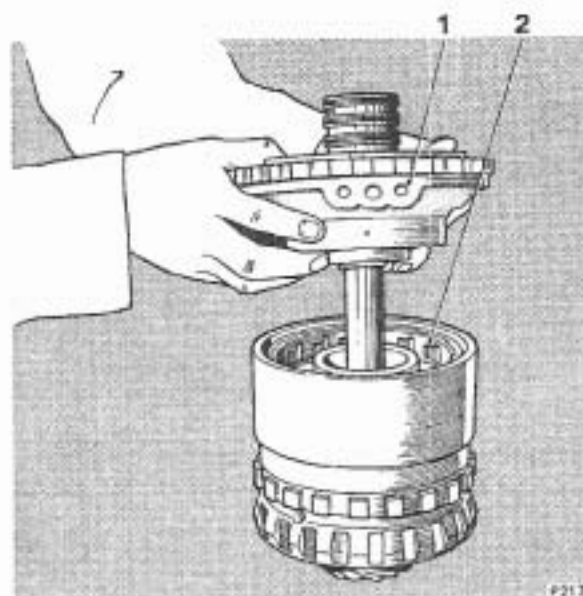

FIG. T285 FITTING THE CENTRE SUPPORT INTO THE REACTION CARRIER (ROLLER CLUTCH)
31. Fit the centre support assembly into the roller clutch fitted into the reaction carrier (see Fig. T285).